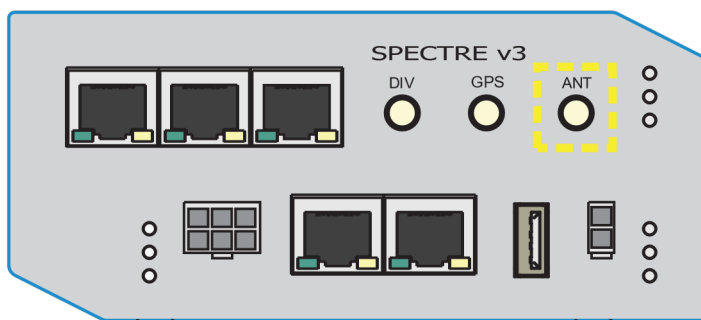

Fig. 22 Antenna socket (arked yellow) on the router's front side
8. Connect the plug of the antenna cable to the socket marked ANT (yellow frame in Fig. 22 below) on the router.